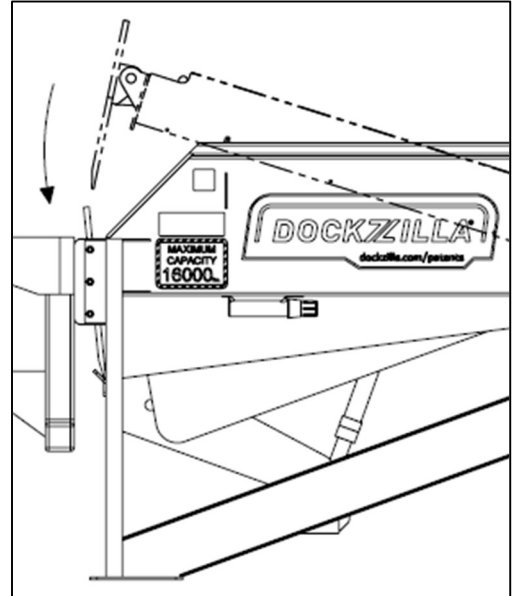

Figure 11: Storing Leveler
2. When the leveler deck is fully raised and the lip begins to extend, release the RAISE button, and the leveler will lower into its stored position (Figure 11).